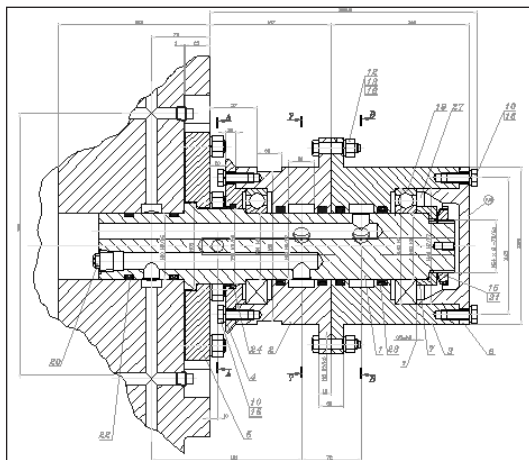

Figure 26-4: This drawing needs updated layers and a title block.
2. Save the file as *ab26-01.dwg* in your AutoCAD Bible folder. This drawing needs an updated set of layers and a title block. It is shown in Figure 26-4.